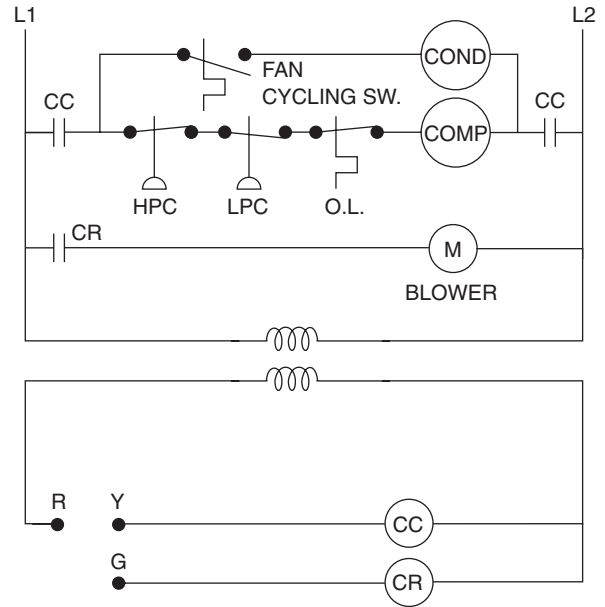

FIGURE 27-3 Example.
Suppose the wiring for the preceding problem were slightly more complicated, as shown in Figure 27-3. There is a high-pressure cutout (HPC) and a low-pressure cutout (LPC) and a thermal overload (OL) in the compressor circuit. There is a fan-cycling switch in the condenser fan circuit. If the condenser